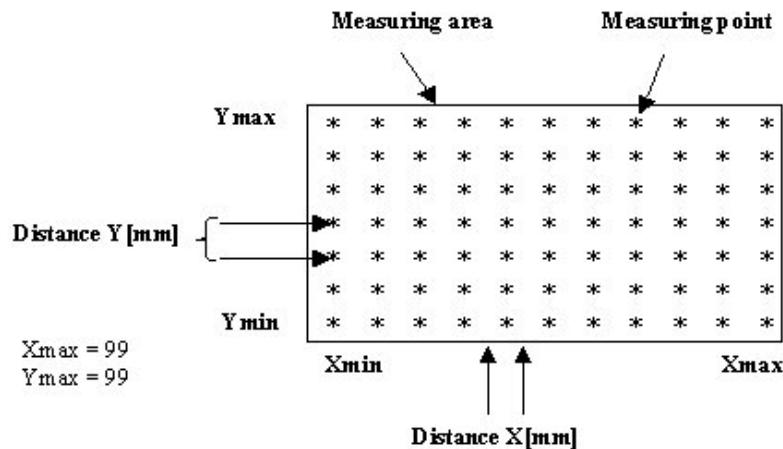

Fig. 6. Sketch of X and Y parameters.
- a. In the *Settings* menu the general settings for the measuring area can be changed. Fig. 6 shows the orientation of the X and Y parameters.